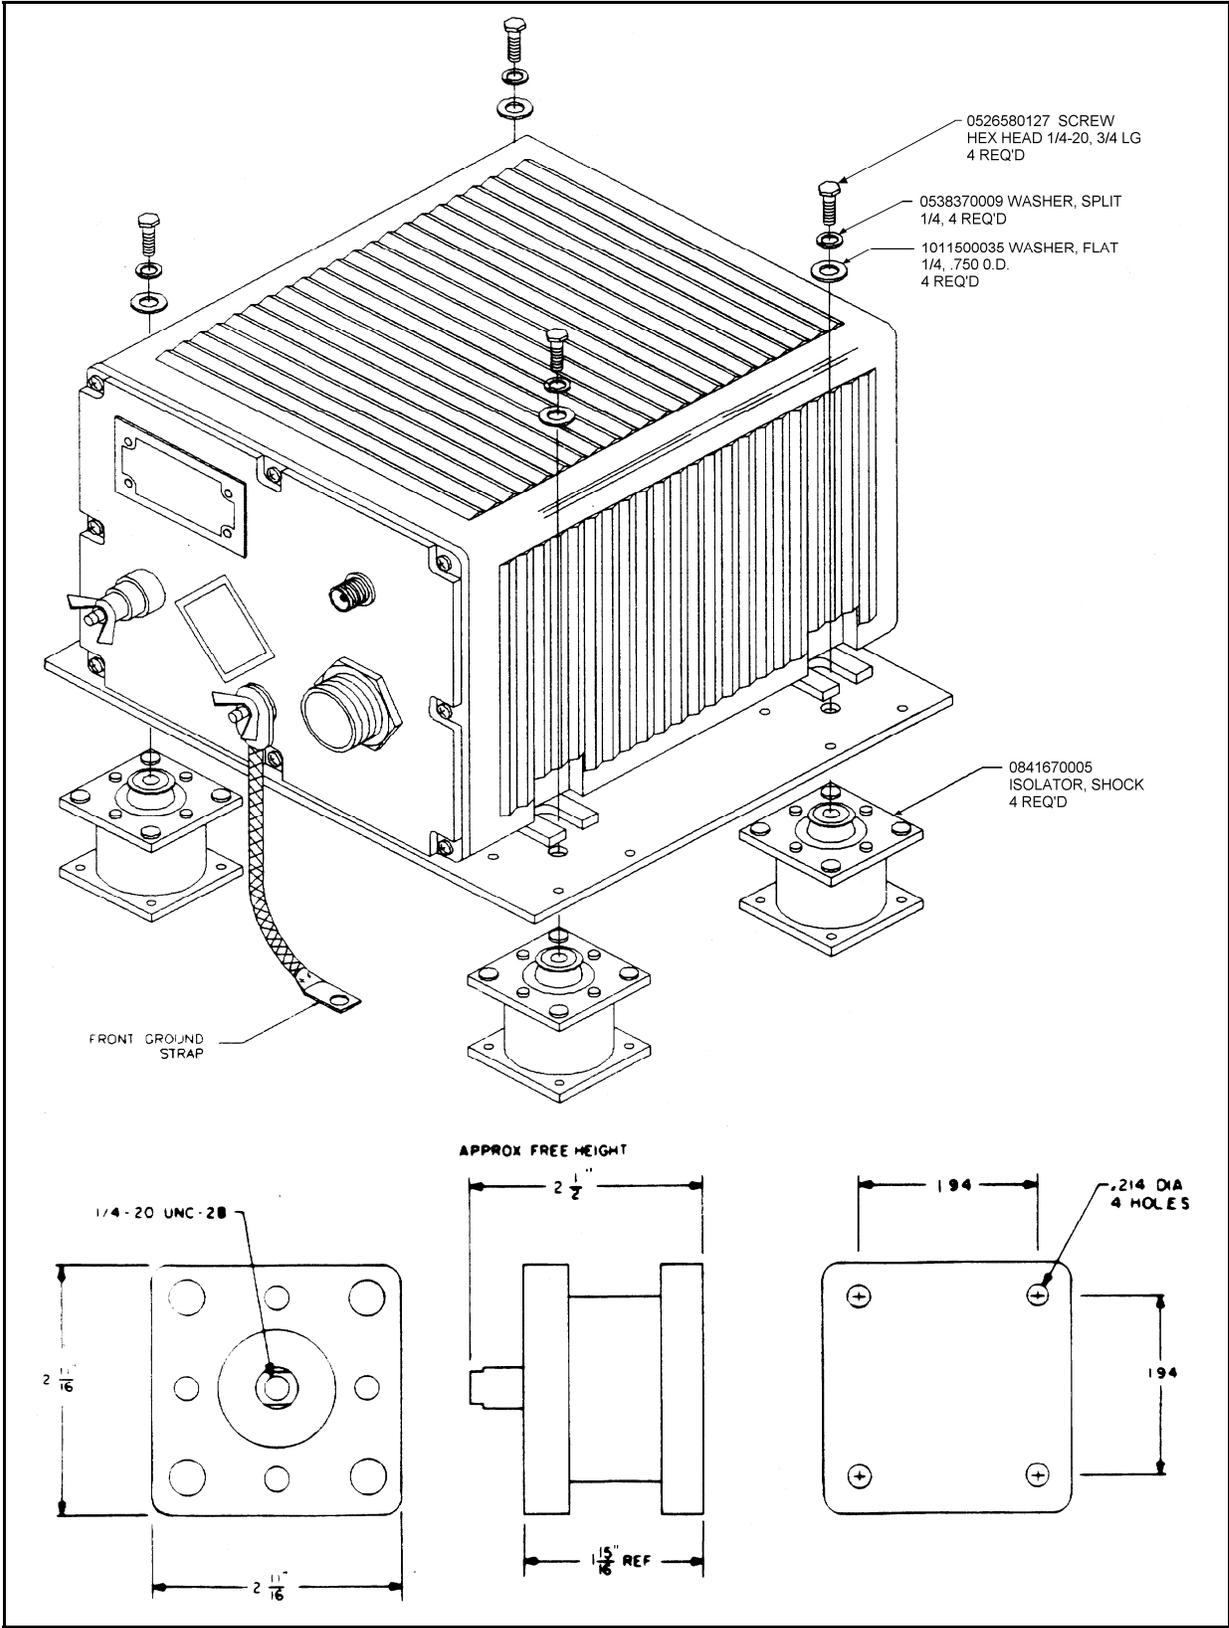

Figure 2.2 Shockmount Installation.
**NOTE:** Shockmounting is required only in severe shock or vibration environments exceeding those noted in Section 1.3.2. See Figure 2.2 for installation.